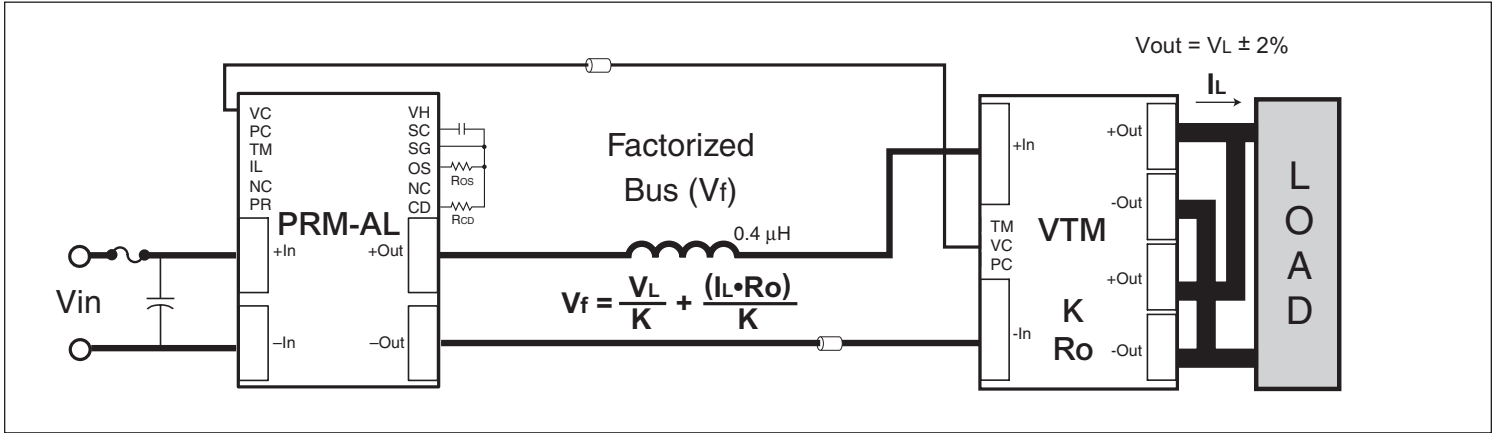

Figure 14 — Adaptive Loop compensation with soft start using the SC port.
- V_f = PRM output voltage, the Factorized Bus (see Figure 14)
An external capacitor can be added to the SC port as shown in Figure 14 to control the output voltage slew rate for soft start.